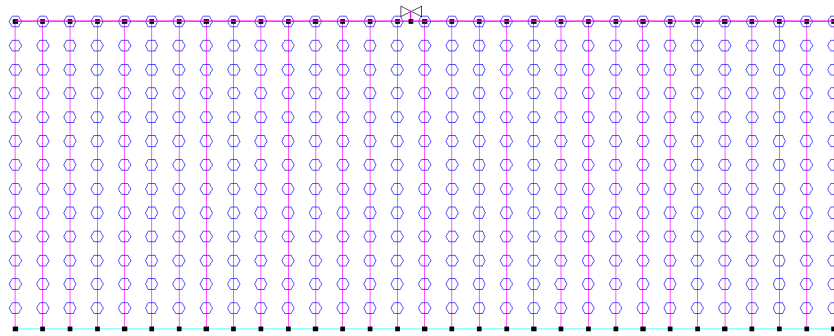

Figure 4-40
15. Because we selected "User Defined" for the "Lateral Direction" we now have to enter two points that define the lateral direction (this will be indicated in the bottom left of the status bar). *Right-click|Snaps|Endpoint* and click on the left top corner of the rectangle. Now you will notice that the status bar is asking for the 2nd point in the block lateral. *Right-click|Snaps|Endpoint* and click on the bottom left corner. Once this is completed the laterals are automatically drawn, with a submain at the top of the block and a central valve with a **5ft (1.5m)** stub, as in Figure 4-40.